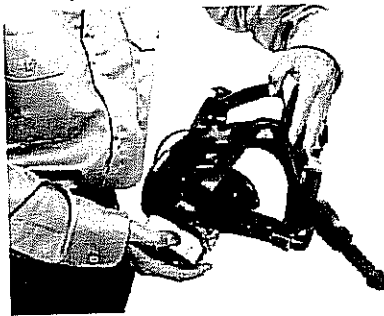

FIGURE 12
- 3) Inspect the head straps and clips for wear. Check all elastomer and rubber parts for pliability and signs of deterioration. (See Figure 12.)